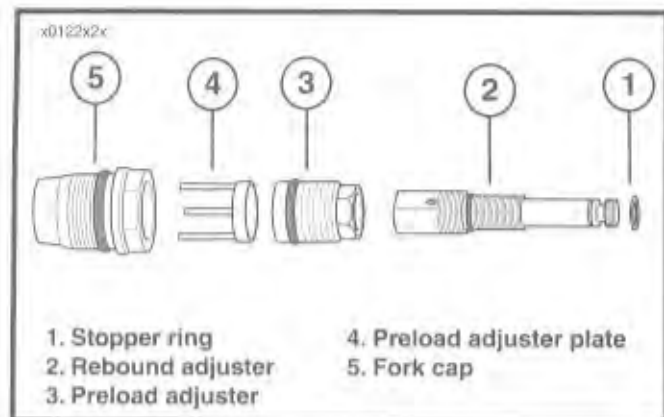

Figure 2-62.
1. See Figure 2-62. Remove the stopper ring (1)